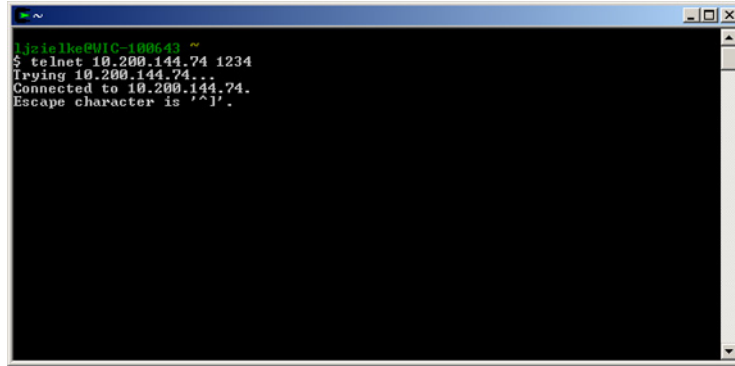

Fig. 3-40 Command Window Example
4. The Test Set can now be accessed using desired application. For example, open a command window and enter telnet Test Set's IP Address TCP/IP Port. Refer to Fig. 3-40 which shows an open command window connected to Test Set IP Address 10.200.144.74 on port 1234.